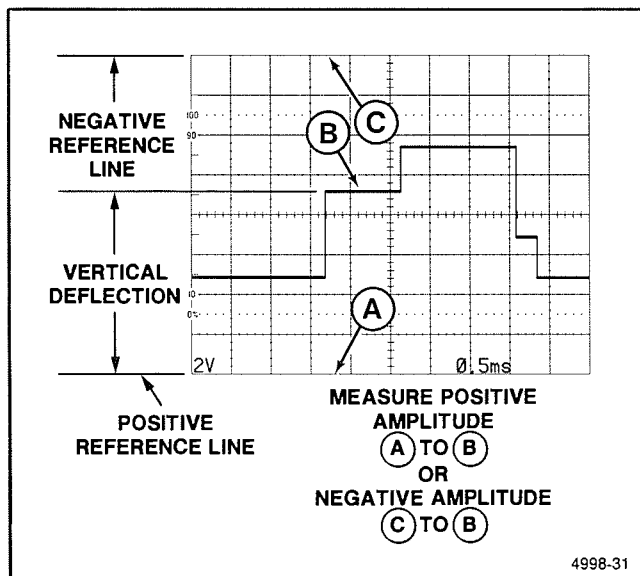

Figure 6-18. Ground referenced voltage measurement.
4. Set the AC-GND-DC switch to DC. Measure the divisions of vertical deflection between the reference line and the desired point on the waveform (see Figure 6-18).
EXAMPLE: The vertical distance measured is 4.6 divisions (see Figure 6-18). The waveform is above the reference line, the VOLTS/DIV switch is set to 2 V, and a 10X scale-factor-switching probe is used.